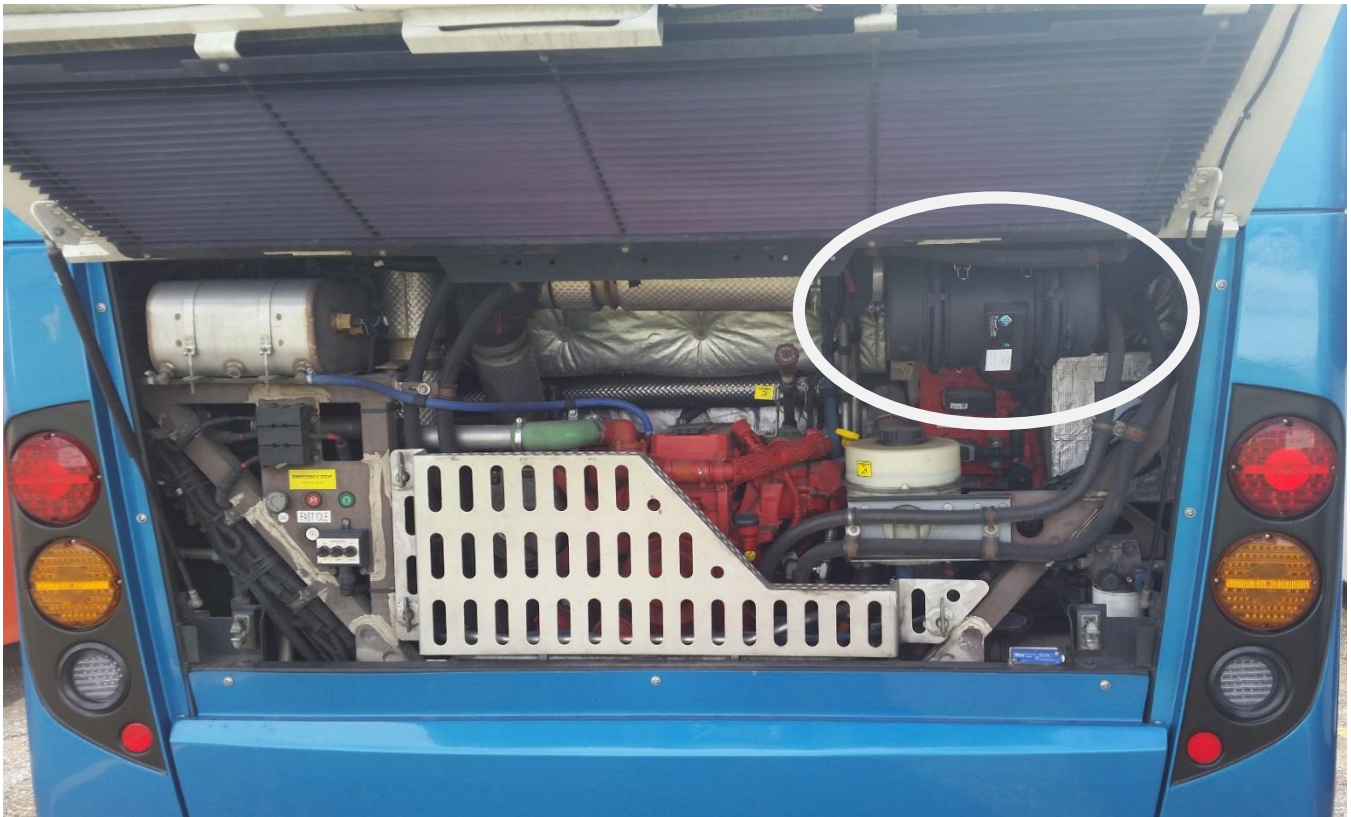

Figure 1: Location of air filter assembly
2. Open the rear engine access door and locate the air filter assembly. Refer to Figure 1.